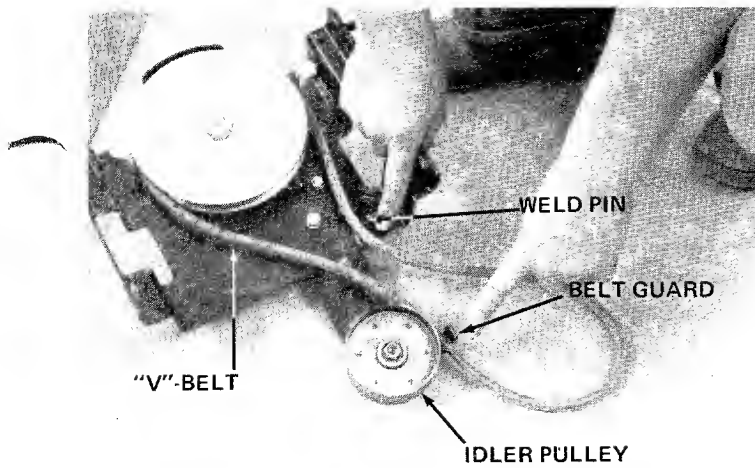

FIGURE 16
14. Be sure belt on idler assembly is in position on idler pulley between belt guard and weld pin as shown in figure 16.